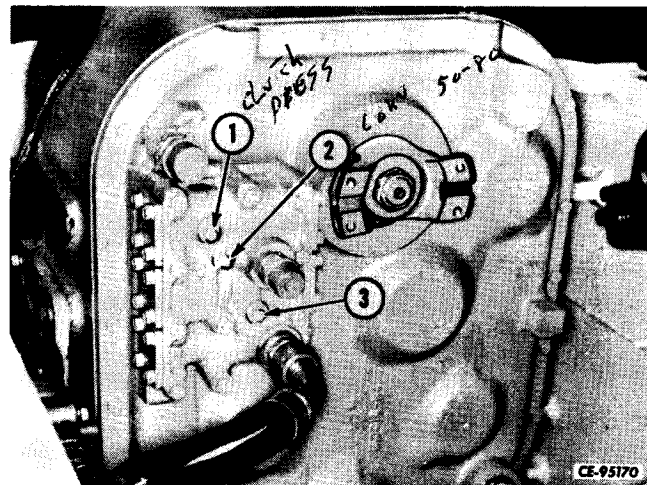

Figure 4-5
- c. Service gauge may be attached to clutch pressure tap in pressure valve body (1, Fig. 4-5) on transmission.
- b. Service gauge may be attached to converter tap (2, Fig. 4-5) on pressure regulator valve on the transmission.
- b. Service gauge may be attached to lube pressure tap (3, Fig. 4-5) on pressure regulator valve.